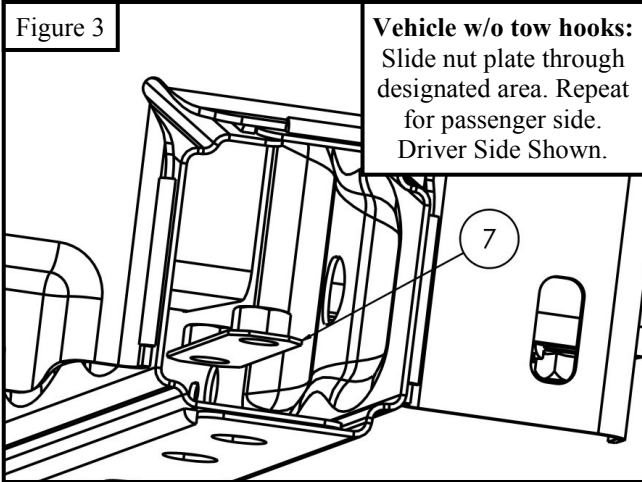
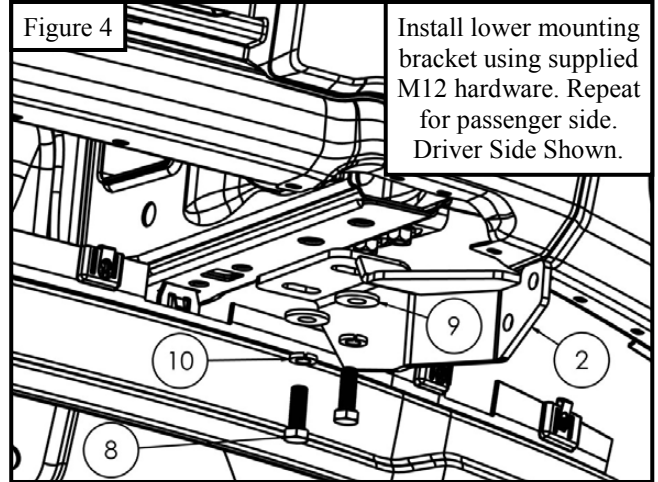
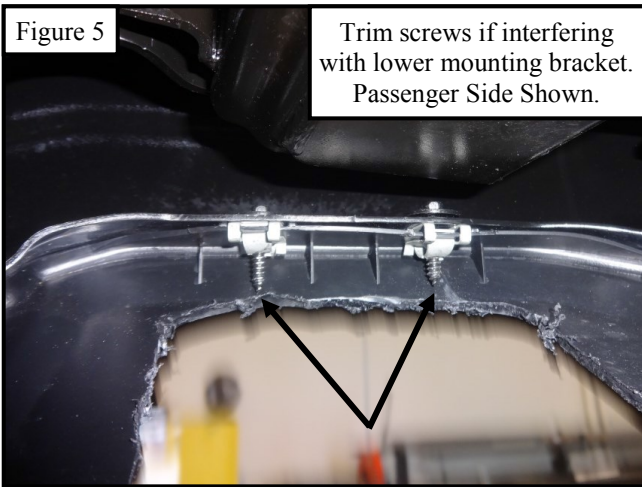

Figure 3
Figure 4
Figure 5
3. **For vehicles with factory tow hooks:** Remove tow hooks and loosely install Lower Mounting Brackets to factory nut plates using supplied M12 hardware as shown in **Figure 4**. Trim screws if they interfere with lower mounting bracket. See **Figure 5**.
4. **For vehicles without tow hooks:** Slip double nut plates into frame and line up with existing holes. See **Figure 3**. Loosely install the Lower Mounting Brackets using the supplied M12 hardware as shown in **Figure 4**. Trim screws if they interfere with lower mounting bracket. See **Figure 5**.